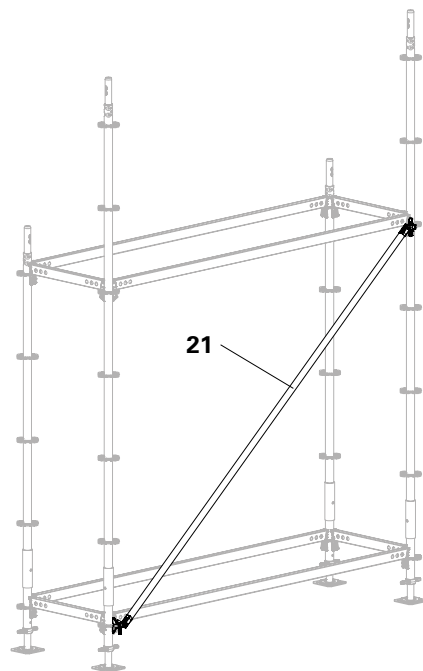

Fig. A4.02
- Horizontal brace is installed. (Fig. A4.02)